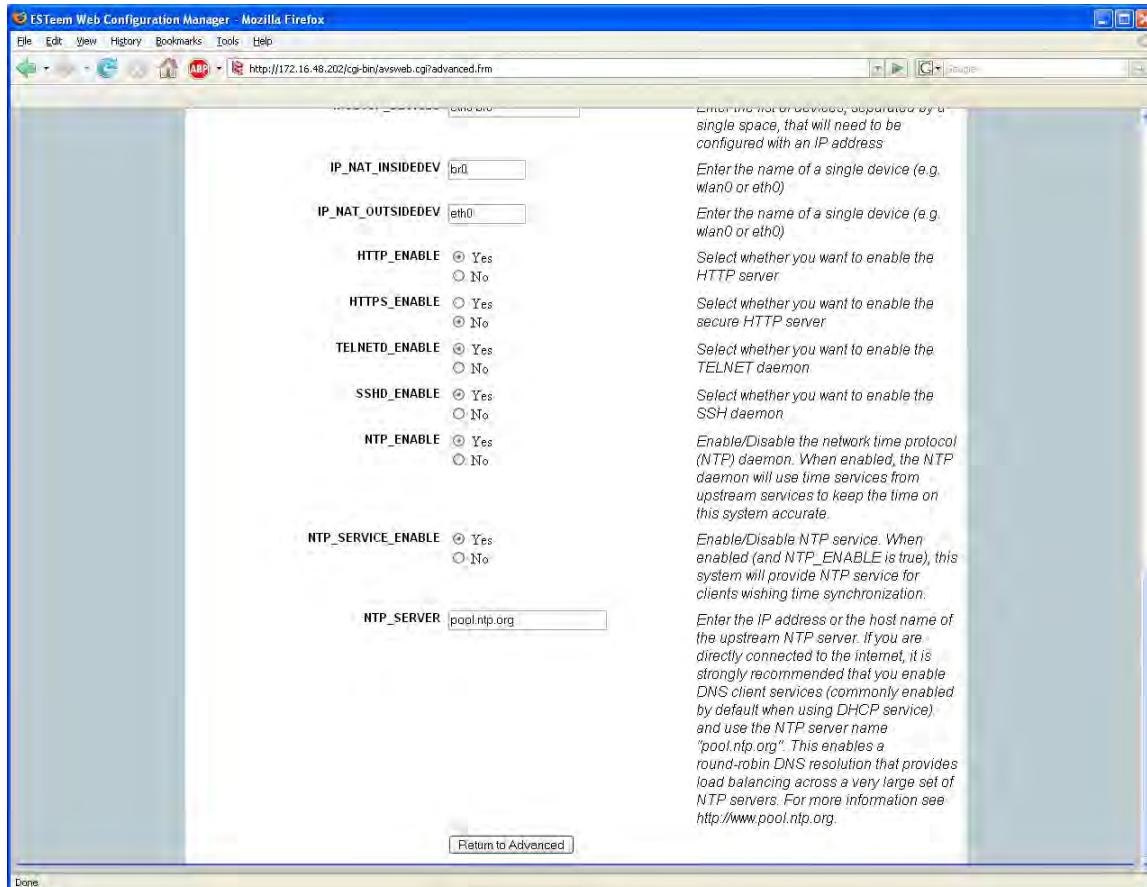

Figure 12: NTP Settings
3. The NTP daemon is enabled by selecting YES for **NTP ENABLE** (Figure 12). When enabled, the NTP daemon will use time services from upstream services to keep the time on this system accurate.
4. Next, the **NTP SERVICE ENABLE** should be configured to “YES,” if you want to allow the system to provide NTP service for clients wishing time synchronization (Figure 12).